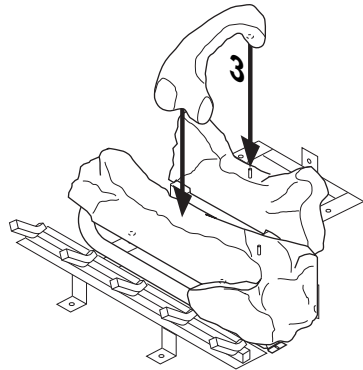

Figure 43 - Installing Log No. 3
3. Place log #3 (crossover log) onto rear and front logs. Make sure it is seated properly on smooth surface of front log and pin on back log as shown in Figure 43, page 25.